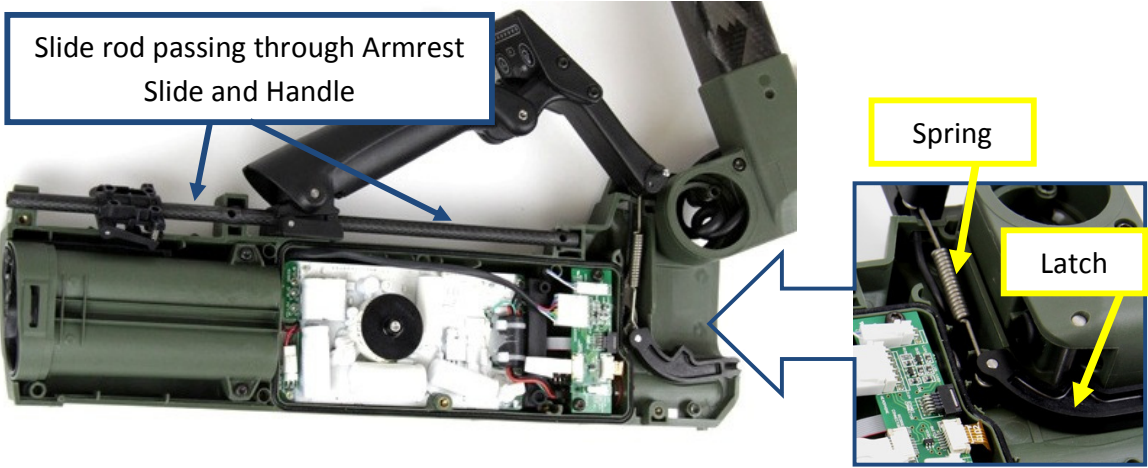

Figure 19: Latch Hinge and Spring Latch Hinge
- Check that the latch hinge and spring latch hinge are correctly positioned into the left side of the detector body with the latch connected to the spring. Figure 19.
- Check the latch hinge and spring latch hinge are in place and connected. Figure 19.
- Check the latch hinge and spring latch hinge are still connected as shown in Figure 19.